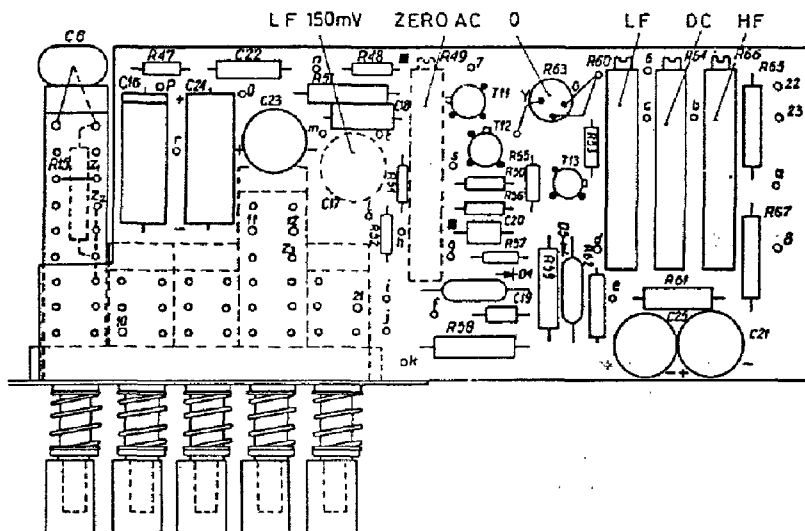

Fig. 4.2 Converter P.C.B. (B-31-1504A) Layout
- (iv) AC/DC CONVERTER ZERO - Short circuit the input leads and with the FET Multimeter set to the 150 mV LF range adjust R49 located on the Converter Board (see Fig. 4.2) for a zero indication.